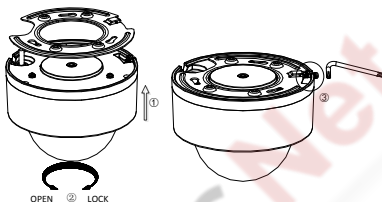

Figure 2-44 Fix the Camera
6. Fix the screws on the side with a screwdriver, as shown in Figure 2-44.